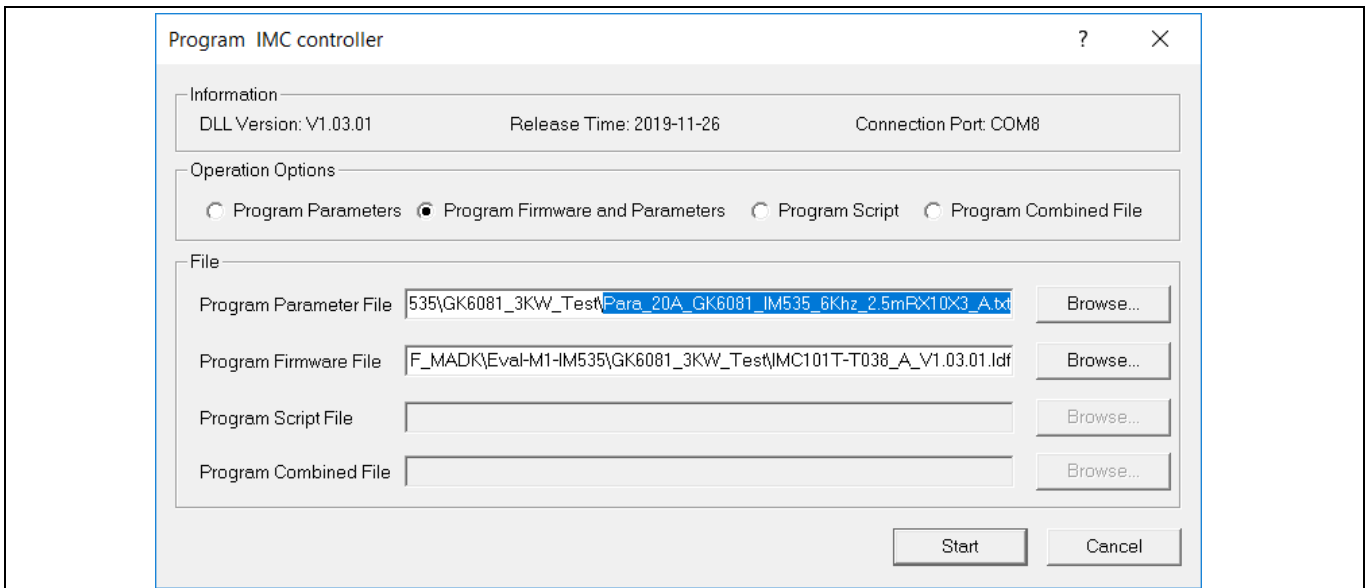

Figure 8 MCEDesigner program page
9. In case of blank IC: Take the following steps to program the firmware and the parameters file into the internal Flash memory of iMOTION™ Control IC: Click on system page, click “Tools” > “Programmer” and select “Program Firmware and Parameters,” shown as Figure 8 below. The encrypted firmware is available in “IMC101T MCE Software Package,” regarding the parameters file, browse and select the .txt file in step 3.